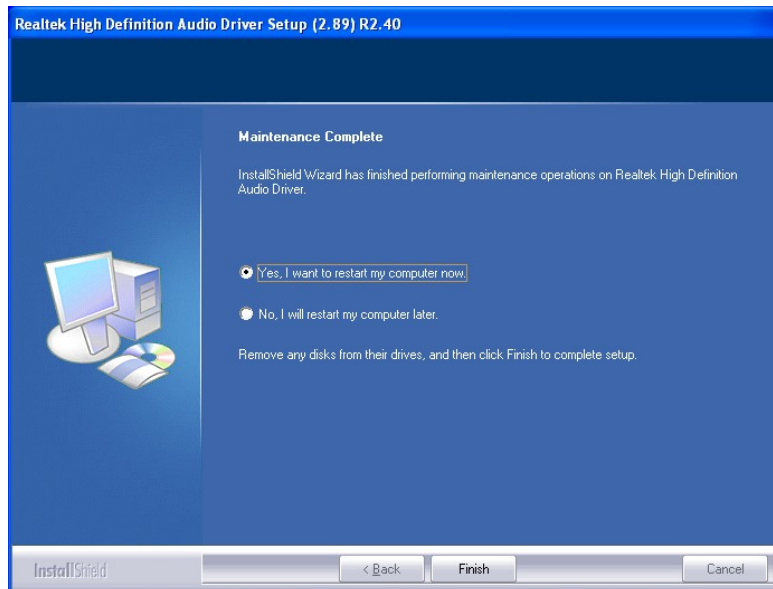

Figure 6-20: AC'97 Driver Installation Complete
Step 7: When the installation is complete, the screen in **Figure 6-20** appears.